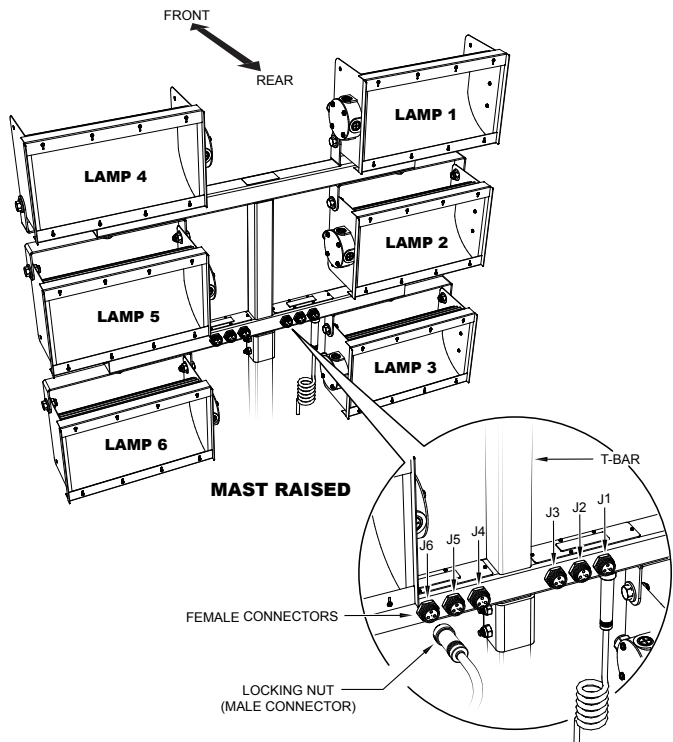

Figure 4. T-Bar and Cable Connectors
- a. Locate the 6 key-lock, 3-pin, female connectors on the T-bar. See Figure 4.